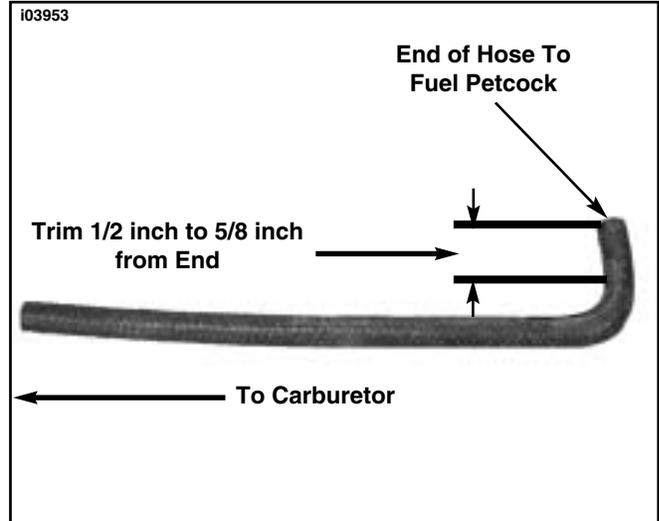

Figure 1. Trim Fuel Hose At Petcock End
1. See Figure 1. Locate and remove the fuel hose from the fuel petcock. Lay the hose on a flat surface and trim 1/2 inch to 5/8 inch of the hose from the end of the bend.